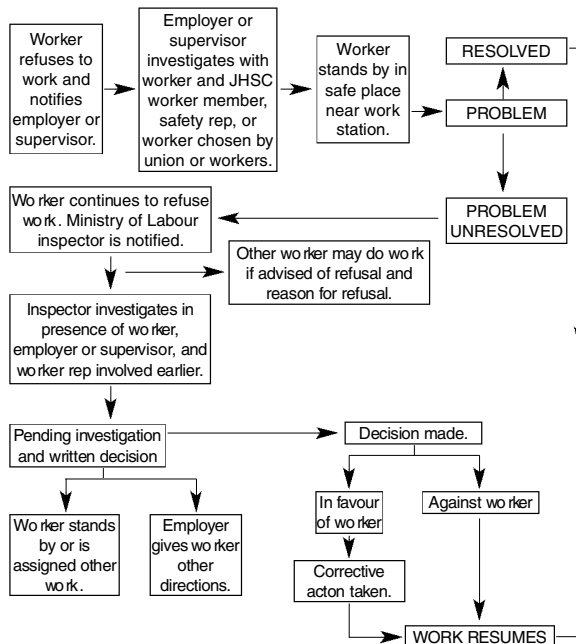

Figure 2
- procedures for refusal to work where health and safety are in danger (Figure 2).